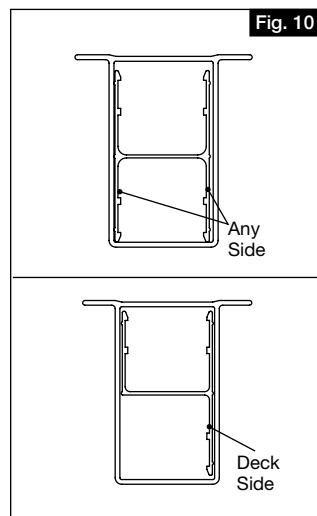

Fig. 10
**NOTE:** Finyl Line top rails are reinforced with an aluminum channel. Please check the inside of your top rail prior to installation. If it uses a shape other than a capital "H", then be sure to orient that rail so the long part of the aluminum faces the Inside of the deck (Fig. 10).